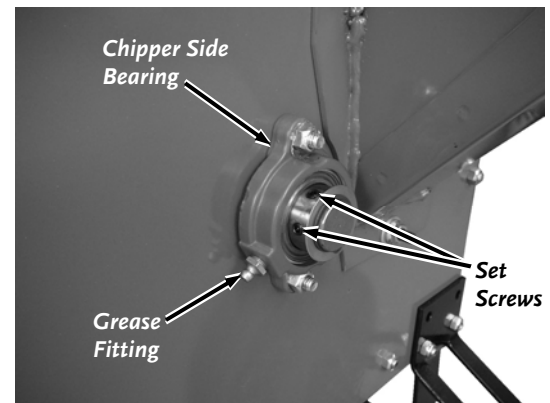

Figure 13
1. Wipe all dirt, etc., from the Grease Fittings on both Bearings with a clean cloth (**Figure 13**).